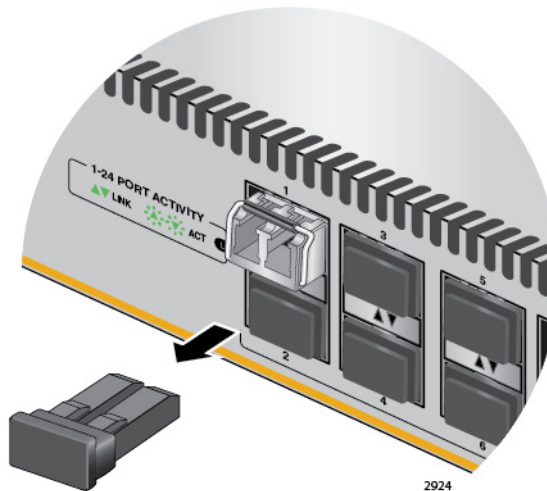

Figure 69. Removing the Dust Cover from an SFP Transceiver
5. Remove the dust cover from the transceiver, as shown in Figure 69.